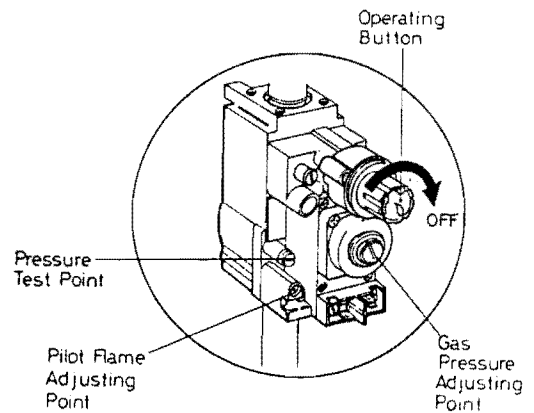

Fig. 3 Multifunctional Control
- b) Remove the cover from the adjustment point on the multifunctional control (see Fig.3), release the pressure test point screw and attach a pressure test gauge.
d) Push the START BUTTON (marked with the flame symbol) on the multifunctional control (see Fig.3) fully in and hold it in. Repeatedly push and release the lighting button until the pilot is alight. N.B. If the piezo unit should fail to spark, the pilot burner may be lit by applying a lighted taper to the pilot whilst the START BUTTON is pushed in.
6.9 Allow the heater to operate for 15 min., then adjust the burner pressure to the output required (see Fig. 3 and Table 2).
NOTE: Heaters are factory set to a burner setting pressure giving high rate output i.e. 18.9kW(64,500Btu/h) at 12.4mbar(5.0in wg). To adjust the burner pressure, remove the cover from the gas pressure adjusting point (see Fig.3) and turn the flow rate screw clockwise to increase, anti-clockwise to decrease. Fix the pressure set arrow under the appropriate column on the data badge.
**8.9 Gas pressure check (see Fig.3 and Table 2):-**
Attach a gas pressure gauge to the burner setting pressure test point on the multifunctional control (see Fig.3). Light the heater, check the pressure and confirm by a gas rate check at meter. Adjust, if necessary, at the gas pressure adjusting point after removing the cap. Turn clockwise to increase the burner pressure and vice versa.